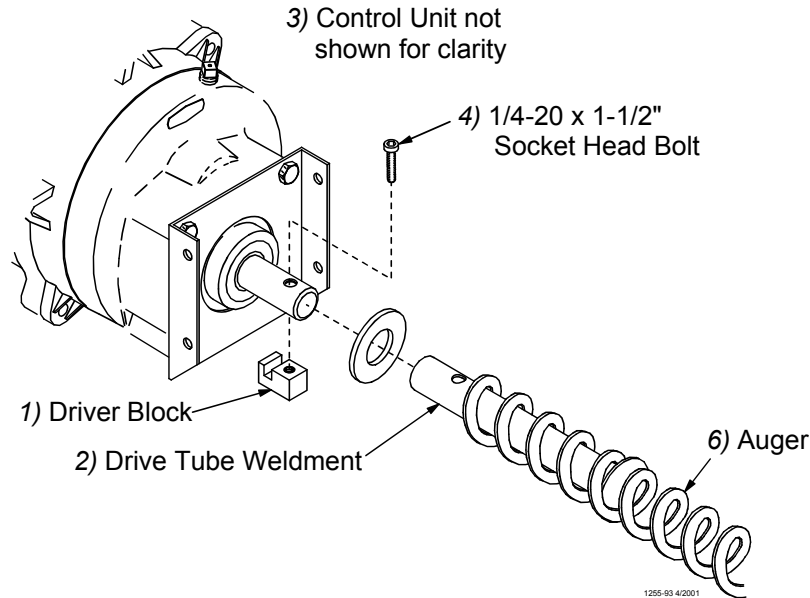

Figure 40. Auger Driver Components
4. Slide the Drive Tube and flat washer over the output shaft on the Power Unit, as shown in **Figure 40**.
6. Turn the Drive Tube Weldment into the auger, then attach to the output shaft of the Power Unit, as shown in **Figure 40**. Use the Driver Block to secure the auger to the Output Shaft.